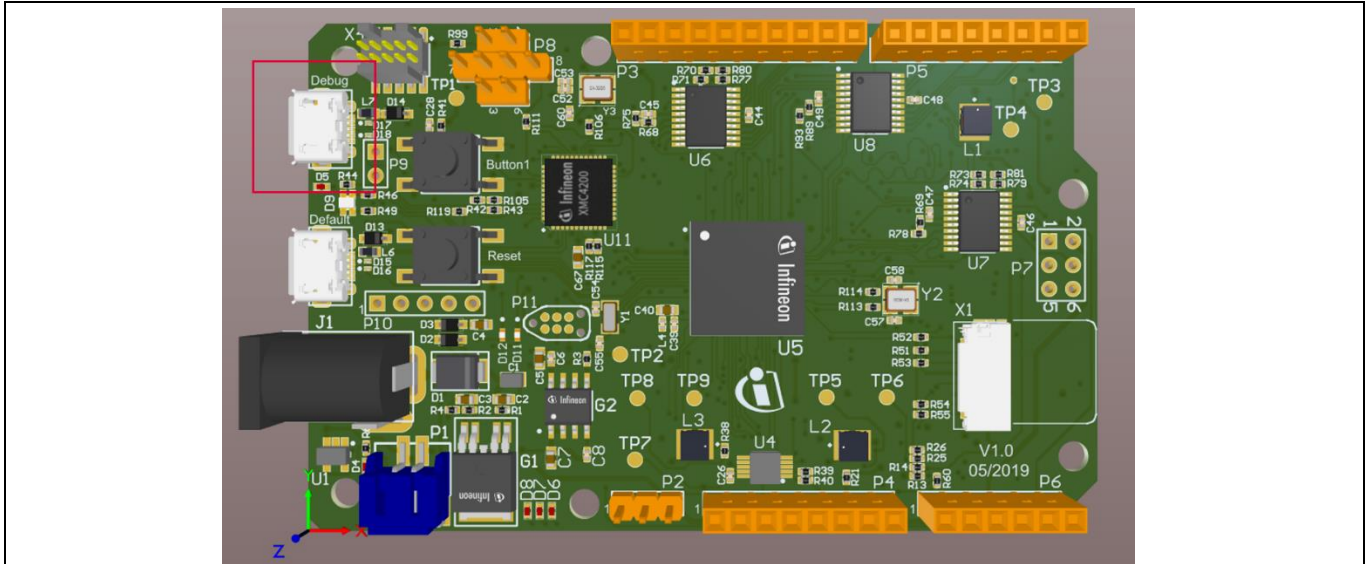

Figure 30 Connect the USB cable onto the debug port
13. Turn on the 24 V DC power supply to the RGB LED lighting shield and connect the Radar Baseboard XMC4700 to the PC via a USB cable onto the "Debug" USB port (Figure 30).